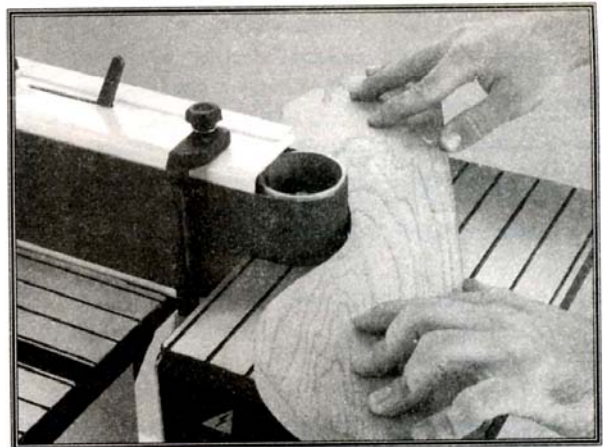

Figure 17. Contour sanding operation.
6. Hold the workpiece firmly with both hands and feed it into the curved end as shown in **Figure 17**. Move the workpiece around the end until the desired profile is achieved.